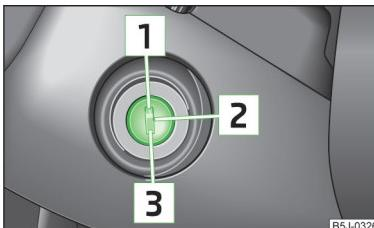

Fig. 102
- When the vehicle is travelling with the engine off, the ignition key must always be in position **[2]** » Fig. 102 on page 103 (ignition switched on). This position is indicated by the warning lights coming on. If this is not the case, it could result in unexpected locking of the steering wheel - there is the risk of an accident.
- The starter must only be operated when the engine is not running and the vehicle is at a standstill. The starter or engine can be damaged if the starter is activated when the engine is running **[3]** » Fig. 102 on page 103.
Petrol engines » Fig. 102
Diesel engines » Fig. 102
If the **steering is locked** and the key cannot be turned or can only be turned with difficulty to position **2** » Fig. 102, move the steering wheel back and forth and the steering lock will unlock.
- Switch on the ignition **2** » Fig. 102 on page 103.
Switch off the engine by turning the ignition key to position **1** » Fig. 102 on page 103.